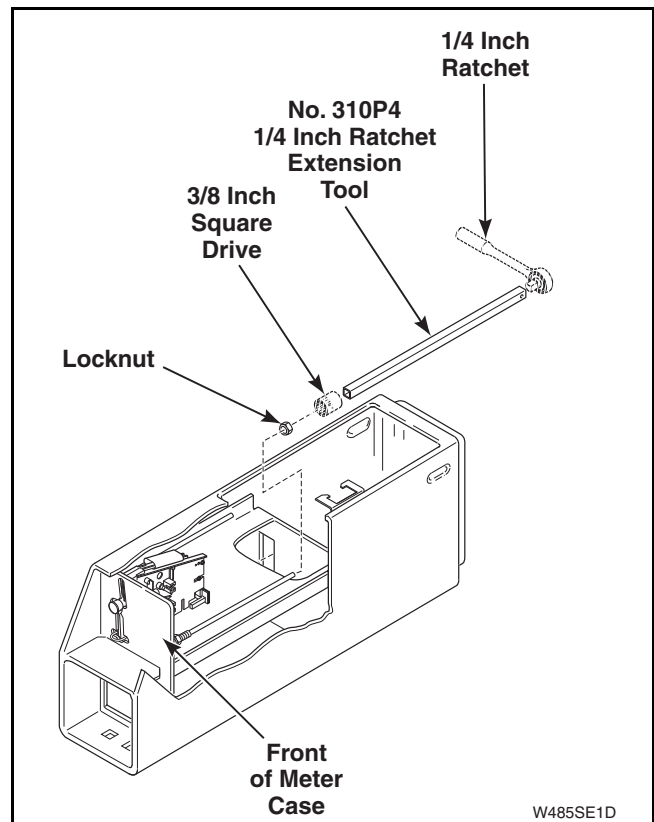

Figure 34
- (4) Use a 7/16 inch socket with No. 310P4 1/4 inch Ratchet Extension Tool and remove two locknuts holding coin drop to front of meter case. Refer to *Figure 34*.
- (5) Lift back end of coin drop and pull straight back until bottom edge of drop's front face plate falls behind the coin drawer housing.
- (6) Carefully lift complete coin drop straight up and out of meter case.